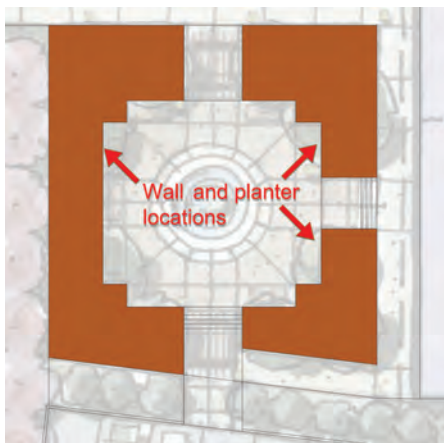
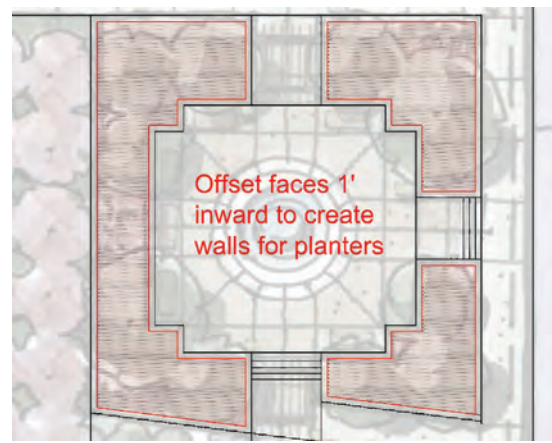

Fig. 7-28: Planter wall locations on the plan image
Fig. 7-29: Offset the planter area faces to create edges for the wall.
5. Create the walls and planters using the same technique you used to create the curbs. Identify areas with walls, use the Offset tool to provide thickness, and (if needed) close off the ends by adding edges with the Line tool (Fig. 7-28, Fig. 7-29).